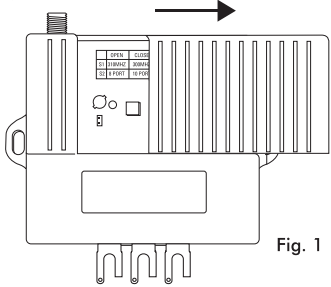

Fig. 1
Step 1. Open the access door by sliding it to the right. See Fig. 1.